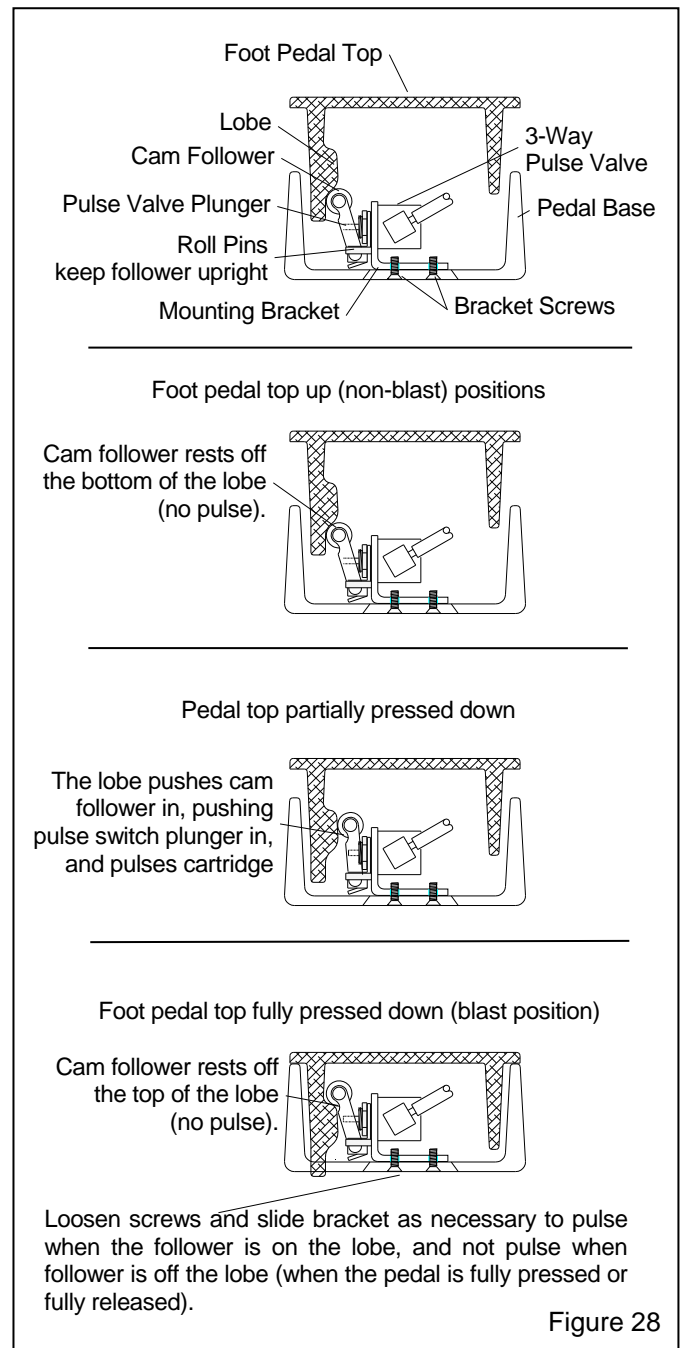

Figure 28
9.15.2 Refer to Figure 28 and make sure the 3-way pulse valve has not come loose from the mounting bracket. Tighten the retaining nut as needed to secure.
9.15.3 If the cam follower tilts to one side, one or both roll pins are bent or missing. Remove the two screws on the bottom of the pedal and remove the switch and cam follower assembly. Center the cam follower and replace roll pins as needed to hold the cam follower in place. Refer to Figure 28.
9.15.4 Check alignment of pulse-valve cam follower: With the exhauster running and with blast pressure adjusted to 0 psi, hold the foot pedal in hand and fully press the pedal top. The collector should pulse as the cam follower rides over the lobe on the pedal top when the pedal is pressed, and again when the pedal is released, as shown in Figure 28. NOTE: The pedal should be rapidly pressed and released so the cam follower quickly rides over the lobe; prolonged engagement of the pulse valve will lengthen the pulse, which does not clean the cartridge and wastes compressed air.